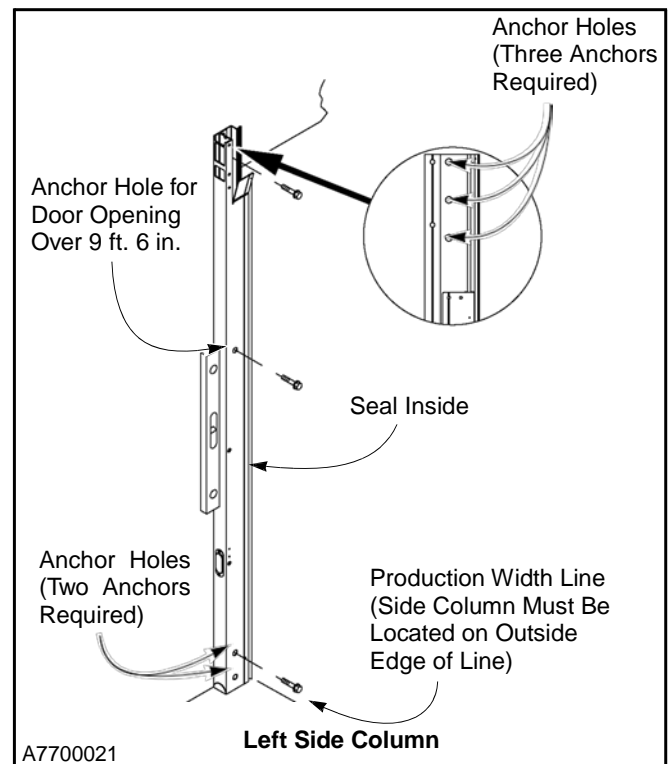

Figure 13
3. Align the inside edge of the side column with the production width line laid out earlier on the floor. The side column must be located on the outside edge of the layout line. (See Figure 13.)
- Once the side column is properly positioned, secure it to the wall using the appropriate anchors. (See "ANCHORING METHODS" on page 3.) Anchor holes have been provided in the side column. (See Figure 13.) DO NOT tighten the anchor hardware at this time.